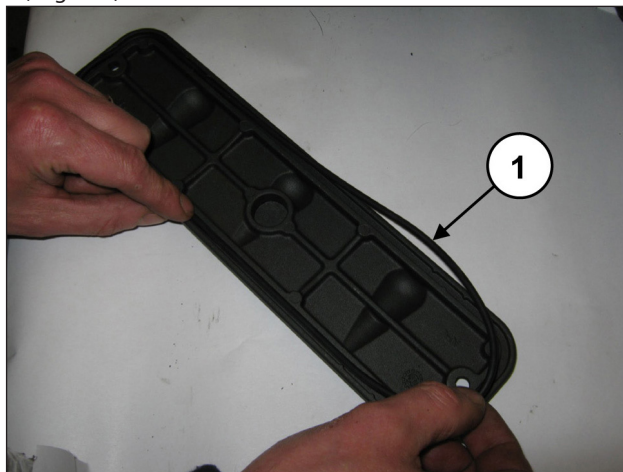
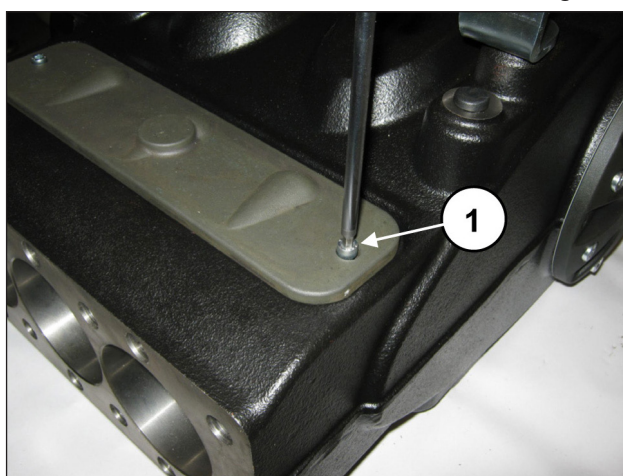

Fig. 195
Fig. 196
On the inspection covers insert the O-ring (pos. ①, Fig. 195) and assemble the covers with the use of 2 M6x14 screws (pos. ①, Fig. 196) and 2 M6x40 screws.